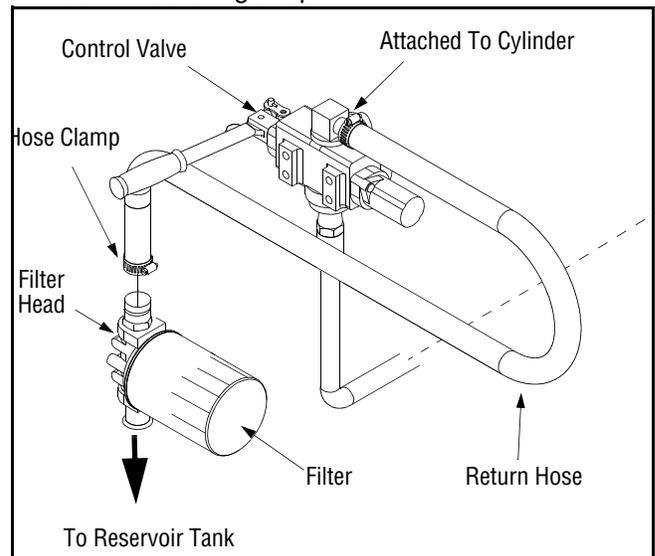

Figure 9
**Return Hose (See Figure 9)**